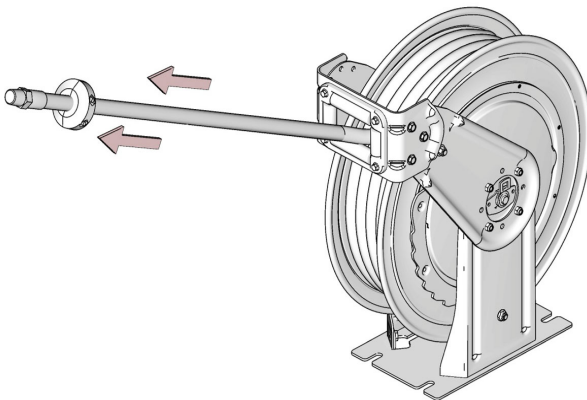

FIG. 24
7. Pull on hose to test tension (FIG. 24).